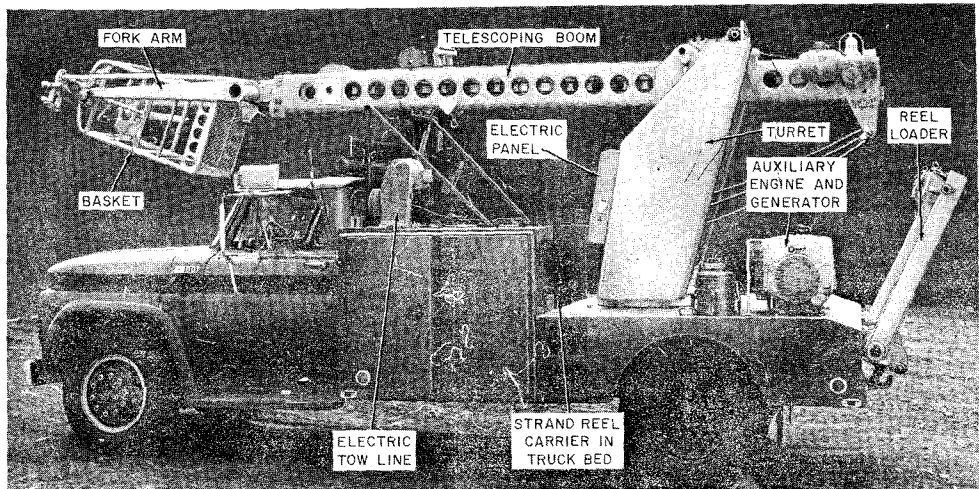

Fig. 1—Telsta Aerial Lift
2.01 The Telsta Model T-40B (Fig. 1) is a truck-mounted unit with a turret base, a boom constructed of two rectangular metal sections, one of which telescopes into the other, and a metal platform supported on the inner boom section by steel arms. Automatic limit switches prevent excessive elevation and extension of the boom. The unit is equipped with a safety cam to prevent retraction of the boom if the telescopic chain fails and a safety cylinder to prevent the boom from descending if the elevation chain fails. The rotation motor is equipped with a drag brake to prevent overrotation of the rotation shaft. The rotational mechanism is equipped with a key that will shear in case of overload to prevent damage to the equipment.